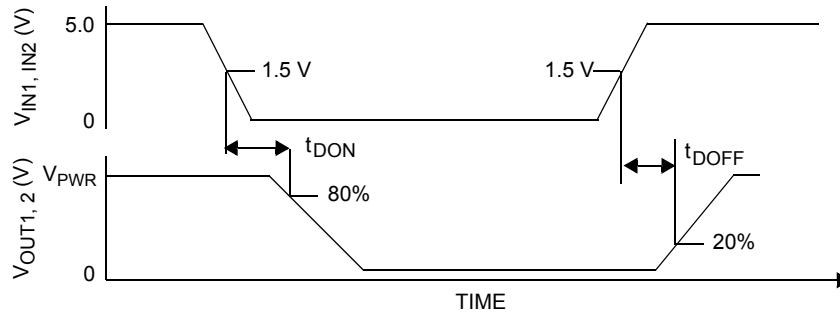

Figure 4. Output delay time
22. * Output Delay is the time duration from 1.5 V on the IN1 or IN2 input signal to the 20% or 80% point (dependent on the transition direction) of the OUT1 or OUT2 signal. If the output is transitioning HIGH-to-LOW, the delay is from 1.5 V on the input signal to the 80% point of the output response signal. If the output is transitioning LOW-to-HIGH, the delay is from 1.5 V on the input signal to the 20% point of the output response signal. See Figure 4, page 10.